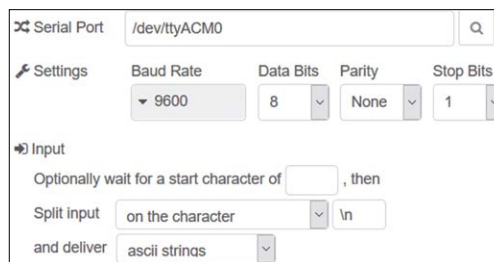

Figure 13.20 Configure node serial
- Create a **serial in** node with the configuration shown in Figure 13.20. Notice that the Serial Port name is set to **/dev/ttyACM0**, which is device name of the Raspberry Pi USB port.